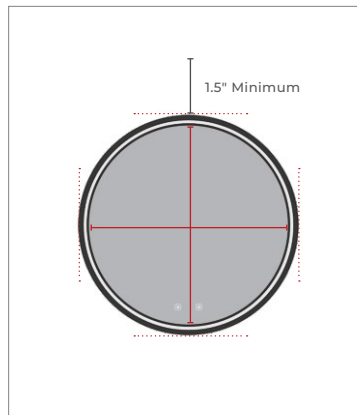

FIGURE 1
**A)** Measure the mirror and mark desired location on wall. Ensure the top edge of the mirror is at least 1.5" from the ceiling. We recommend measuring 4 edges - top, bottom, left and right - so that all four edges can be traced on the wall for accurate hanging. Additionally, trace lines from the center point of these four edges to the center point of the mirror. Electrical connections will be made at the center of the mirror, so this is where the junction box should be located inside the wall. (FIGURE 1)